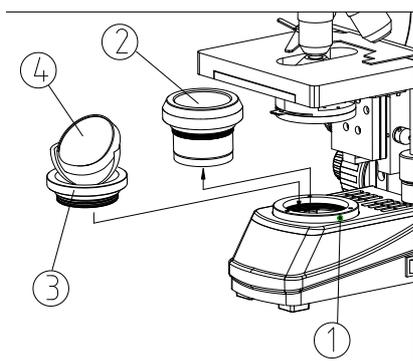

Fig. 8
2. Loosen the hexagon screw (1) with the spanner, to screw off the built-in Koehler illuminator condenser (2) (see Fig. 8).
3. Screw on the mirror (3) according to the arrowhead pointed, and tighten the hexagon screw (1) with the spanner.
4. Rotate the mirror stand (4), to fill the field with light.